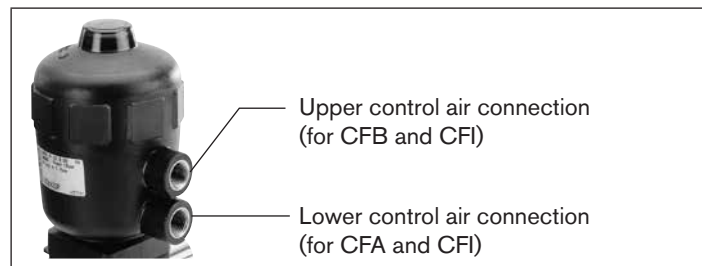

Fig. 30: Control air connection
- Pressurize lower control air connection with compressed air (value as indicated on the type label) (see “Fig. 30”). This is required to detach the diaphragm without damage from the body.
- Pressurize lower control air connection with compressed air (value as indicated on the type label) (see “Fig. 30”).
- Pressurize upper control air connection with compressed air (value as indicated on the type label) (see below “Fig. 30”).